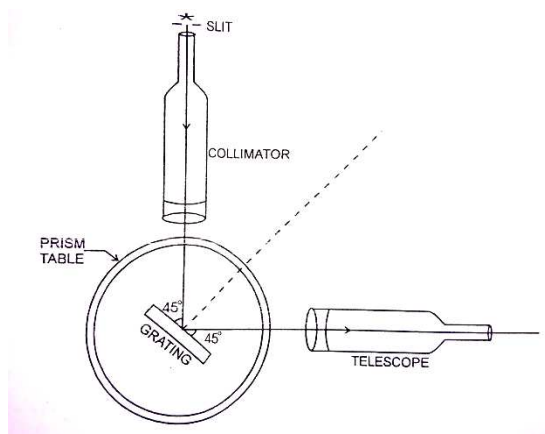

Fig. 2. Adjustment of grating and collimator
- vii. Grating should be normal to the axis of collimator and is done as follows (See Fig. 2):